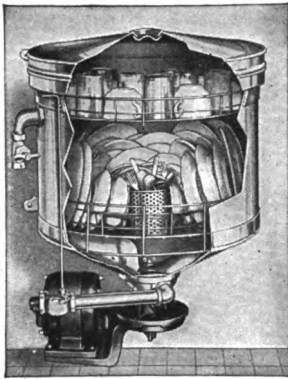

FIG. 119-b. Walker dish-washer.
**214. Dish Dryer.** There is a number of dish dryers on the market which hold the dishes separate from each other. Into these dryers, boiling hot water is poured, over the dishes. There is provision for the water being drained away immediately, and the heat it imparts to the dishes dries them. (Fig. 119-c.)